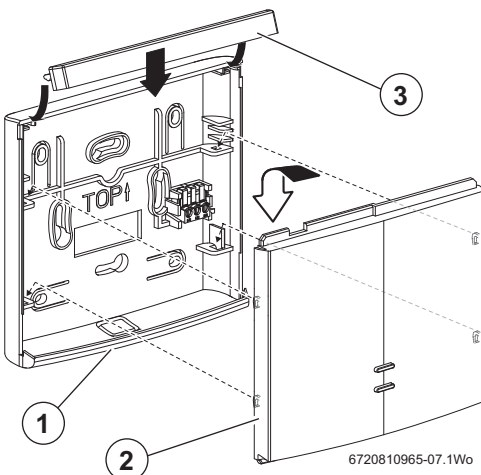

Fig. 4 Fitting the Receiver to wall plate assembly
- Engage the four clips on the back of the Receiver [2] with the four slots on the wall plate as shown in figure 4